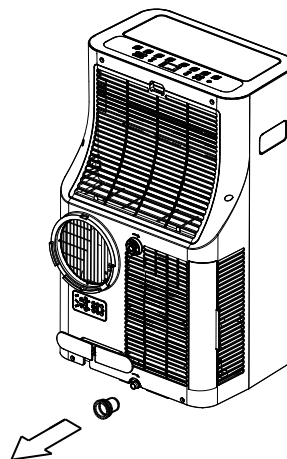

FIG. 26
When the water level of the bottom tray reaches a predetermined level, the unit beeps 8 times and the digital display area shows "P1". At this time the air conditioning/dehumidification process will immediately stop. However, the fan motor will continue to operate. (This is normal.) Carefully move the unit to a drain location, remove the bottom drain plug and drain the water (Fig. 26). You can carefully tilt the unit back slightly to assist with drainage. Restart the machine until the "P1" symbol disappears. If the P1 symbol will not clear after following the above instructions and waiting a few minutes after restarting the machine, call Consumer Services.
- Remove the rubber plug on the back of the unit and attach a hose to drain outlet. Place the open end of the hose directly over the drain area in your basement floor or over a shallow pan (if no floor drain is available.) (See Fig. 23 & 24.) Remove the plug from the bottom drain outlet; the water in the bottom tray will drain out. (See Fig. 26.) Carefully tilt unit back slightly to assist with water drainage from bottom drain outlet.